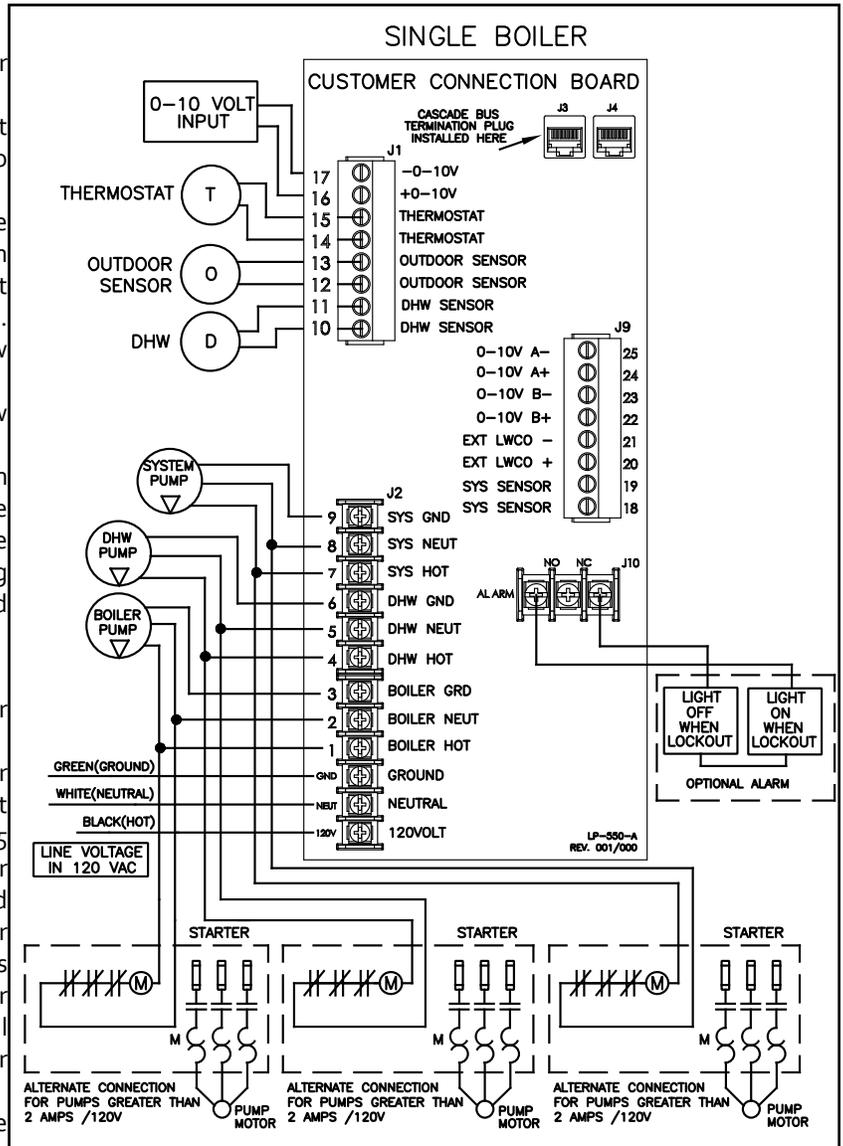

Figure 22 - Control Wiring
NOTE: A termination plug is included in the CAT 3 / CAT 5 Bus Connection Point, labeled J₃ in Figure 22. **DO NOT REMOVE THIS PLUG!** Doing so will affect boiler operation and void warranty.
1. Connect 120V / 60Hz / 15 AMP incoming power wiring to the line voltage terminal strip in the electrical junction box at terminals 120V, Neutral, Ground (shown in Figure 22).
3. Connect the boiler pump as shown in Figure 22 to the terminals marked 1 – (HOT), 2 – (NEUT), and 3 – (GND). The connections shown are suitable for a maximum continuous pump draw of 2 amps at 120 volts. If the pump requires more current or voltage than the 120 volts supplied, an external motor starter or contactor will be required.
The control includes a dry contact alarm output. This is an SPDT circuit, rated at 5 amps at 120 volts. This contact can be used to activate an alarm light or bell or notify a building management system if the boiler goes into a lockout condition. The circuit between the ALARM COM and NC terminals is closed during normal operation and the circuit between ALARM COM and NO is open during normal operation. The connections depicted in Figure 22 show two 120 volt lights connected to the alarm terminals. One light will be on when the boiler is in normal mode and the other light will be on when the boiler is in lockout mode.
1. Connect the room thermostat to the terminals marked THERMOSTAT in the electrical junction box (see Figures 22 and 24). Alternately, any dry contact closure across these terminals will cause the boiler to run. Take caution to ensure neither of the terminals becomes connected to ground.
2. Connect the indirect sensor (7250P-325) to the terminals marked DHW SENSOR (shown in Figures 22 and 24) in the electrical junction box.
2. Connect a building management system or other auxiliary control signal to the terminals marked 16, 0-10 VOLT + and 17, 0-10 VOLT – in the electrical junction box (shown in Figure 22). Caution should be used to ensure that the 0-10 VOLT + connection does not become connected to ground.
1. Connect the boiler pump as shown in Figure 22 to the terminals marked 1 – (HOT), 2 – (NEUT), and 3 – (GND). The connections shown are suitable for a maximum continuous pump draw of 2 amps at 120 volts. If the pump requires more current or voltage than the 120 volts supplied, an external motor starter or contactor will be required.